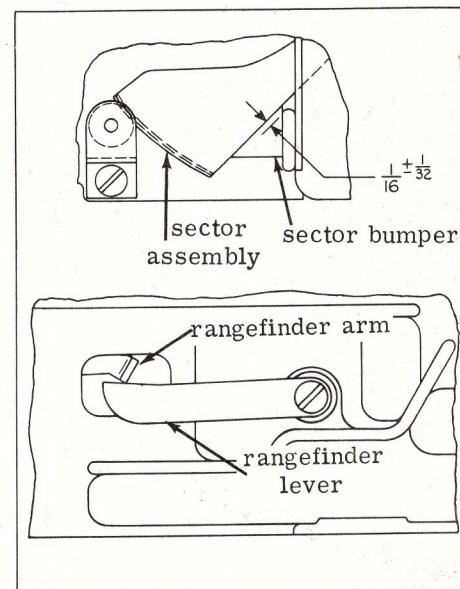

Figure 10A. Lever & Sector Assembly
g. If sector bumper (9) has been removed, apply 3M EC-880 adhesive and assemble bumper as illustrated in figure 10A.
h. Assemble rangefinder arm shield (7) and machine screw (8).
i. If two battery contact plate insulators (6) have been removed, apply 3M EC-880 adhesive to insulators and assemble in place.
j. Assemble insulator (5) and circuit plate complete (3), using two thread cutting screws (4). Apply 3M EC-880 adhesive to the two housing bosses and assemble battery contact plate assembly in place.
k. Apply 3M EC-880 adhesive to housing and assemble guard (2).